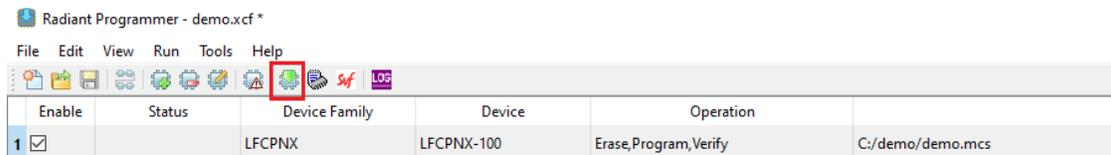

Figure 6.18. Program Device Icon on the Toolbar
- From the Run menu, select **Program Device** to program the external SPI flash. Alternatively, you can click on the Program Device icon from the toolbar, as shown in Figure 6.18.